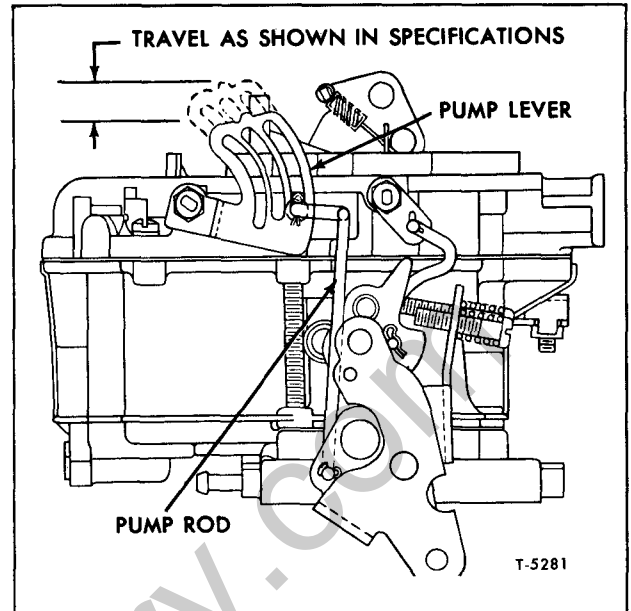

Figure 12—Accelerator Pump Adjustment
4. With engine running, vacuum idle stop disconnected, check reduced engine rpm. The reduced engine speed should be 350 rpm. If necessary, readjust the idle speed screw (fig. 12) to obtain 350 rpm.
Measure the total distance from the point at top of pump lever travel when throttle lever is moved from closed to wide open position as shown in figure 12. The pump travel is as indicated in "Specifications." When necessary to adjust the lever travel, bend the pump rod at the upper end.